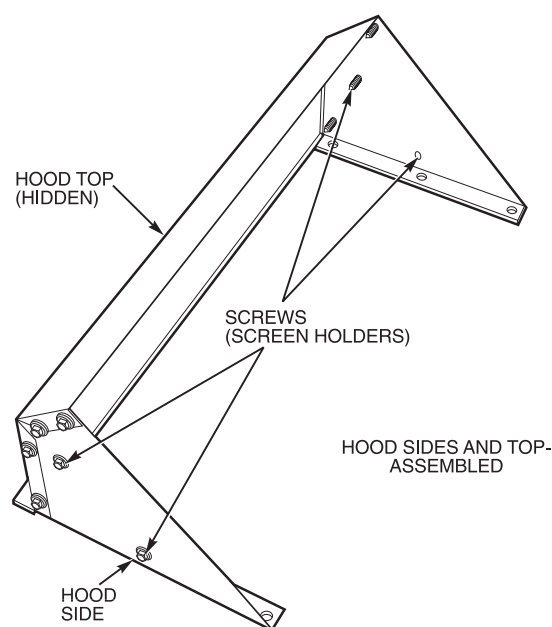

Fig. 18 — Outdoor-Air Hood Details
5. Place hood on front of outdoor-air opening panel. See Fig. 18 for hood details.
8. Align screw holes on hood with screw holes on side of manual outdoor-air damper assembly. See Fig. 18 and 19. Secure hood with screws saved from Step 7.